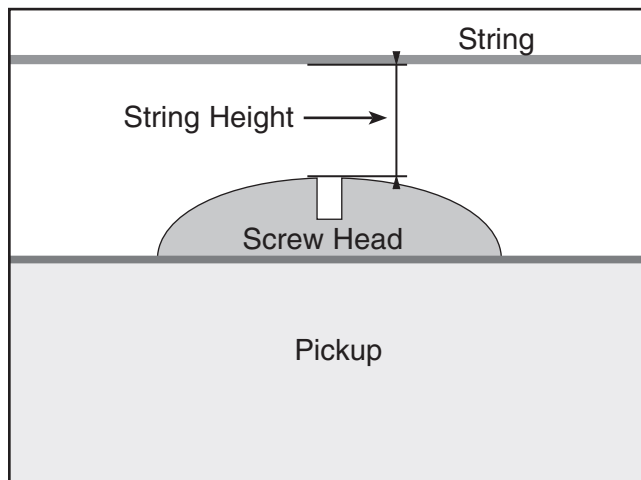

Figure 42. String heights over the pickup.
4. Measure the distance from the top of the outside screw heads on the neck pickup to the bottom of the strings as shown in **Figure 42**.